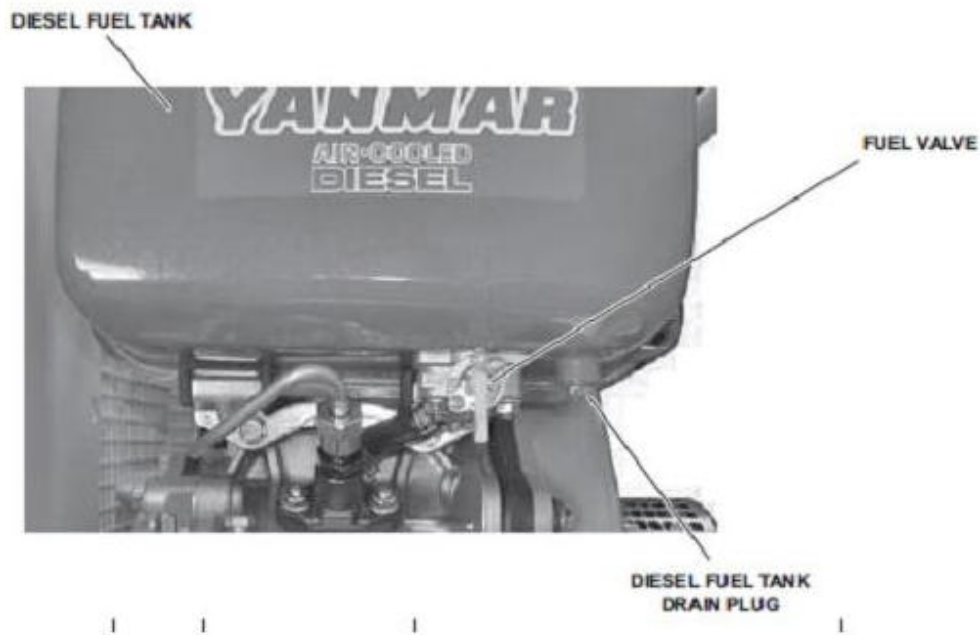

Figure 551-8ST-1004\_44 (Diesel Engine Assembly)
e. Service and inspect the diesel engine assembly annually. (Figure 551-8ST-1004\_44)